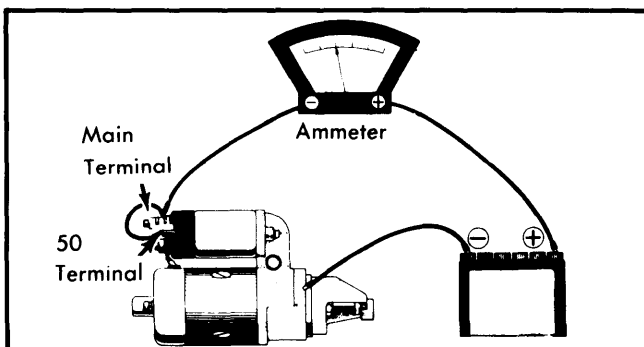

Fig. 1 Circuit for No Load Test
**No Load Test** - With starter on bench and using a fully charged 12 volt battery, make connections as shown in Fig. 1. Starter should rotate smoothly at specified RPM and current draw indicated in *Starter Performance Specifications*.